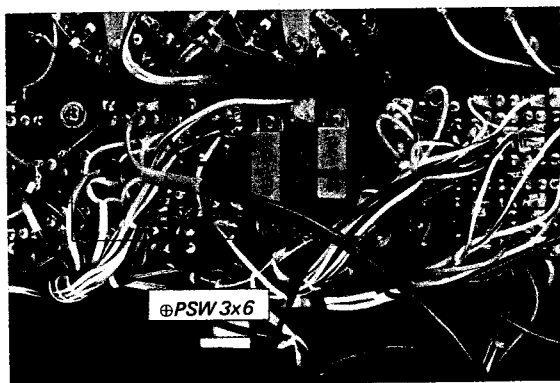

Fig. 2-7. PC board removal
2. Remove the two screws (\oplus PSW 3 \times 6) securing the PCB to the front subchassis as shown in Fig. 2-7.